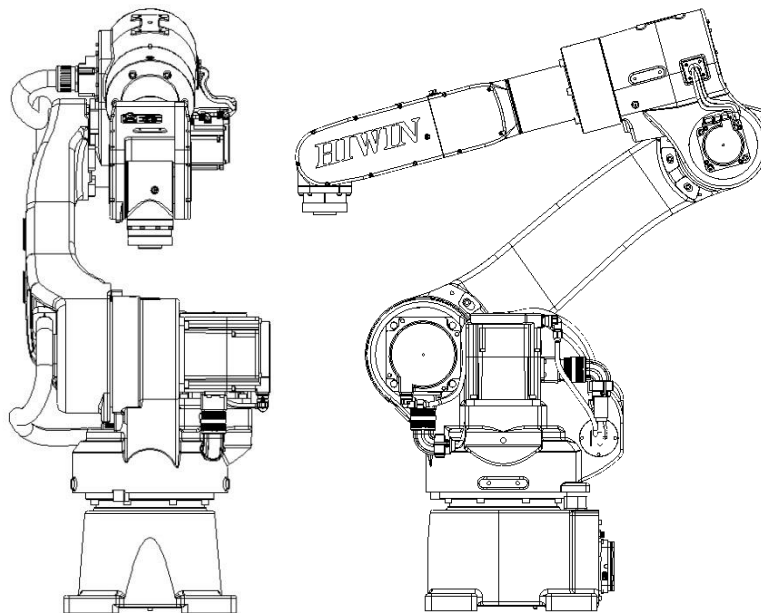

Figure 1-1 Transport position
- Step1. Move the robot into its transport position and the angle of each joint is shown in the Figure 1-1 and Table 1-1. Transport dimensions are shown in Figure 1-2 (a)~(e).
- Step1. Move the robot into its transport position and the angle of each joint is shown in the table of Figure 1-1. Transport dimensions are shown in Figure 1-2 (a)~(e).